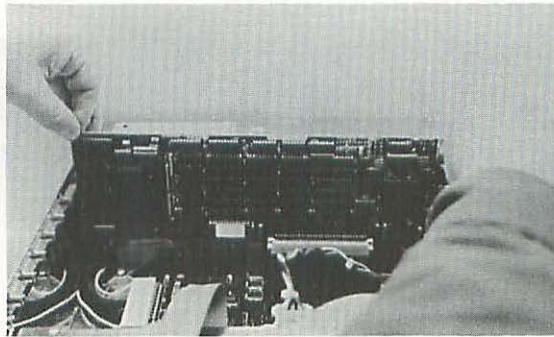

Figure 4-9 Pull overlapping video cards straight up and out.
- 4c. When the video cable is disconnected, grip the bare metal bracket at the back of the video card with one hand, and grip the other side of the video card with your other hand. Pull the overlapping video card straight up and out, as shown in Figure 4-9. If the card appears to be stuck, rock it gently from front to back. Don't rock the card from side to side or you may break the NuBus connector.